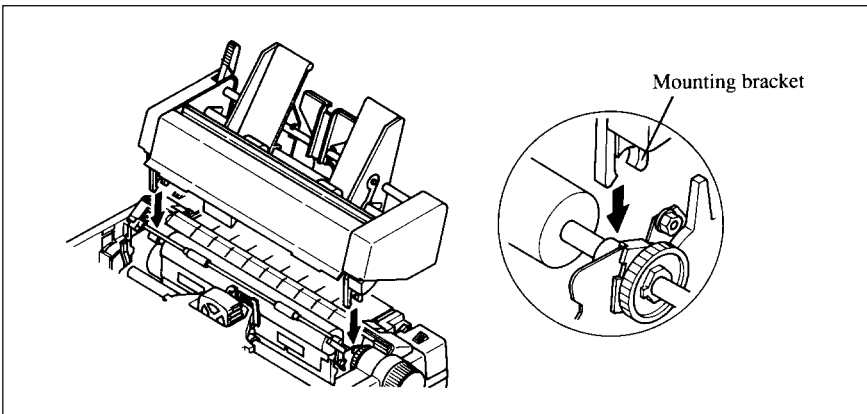

Figure 7-3. Mount the Automatic Sheet Feeder onto the printer.
4. Secure the mounting brackets of the Automatic Sheet Feeder onto the shaft of the platen by lowering it into position as shown in Figure 7-3.